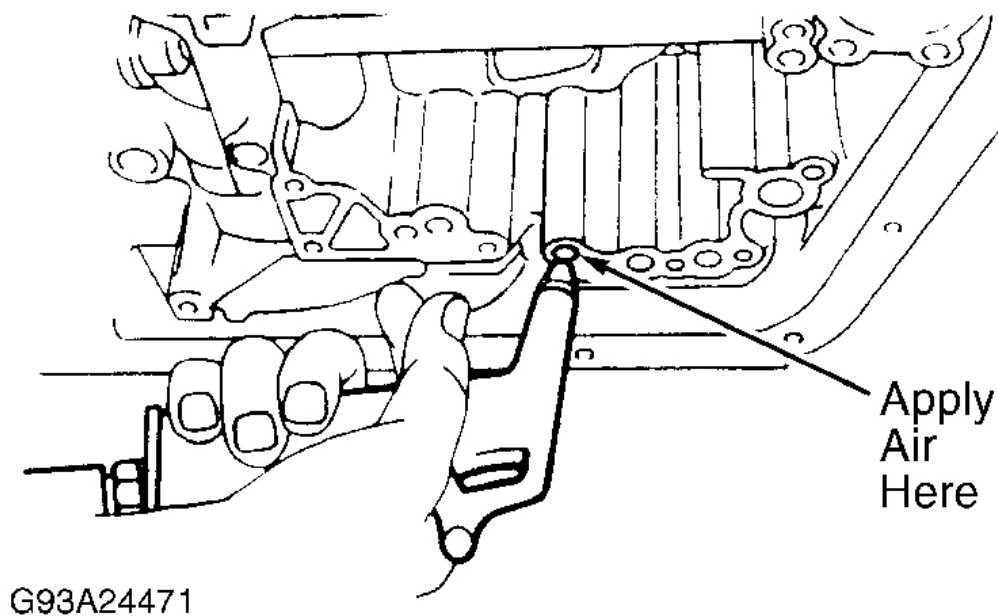

Fig. 15: Removing 1st & Reverse Brake Piston
7. Remove plates, discs and flange. Note number and location of components. To remove piston from 2nd brake drum, apply compressed air slightly to oil passage. Remove No. 2 one-way clutch snap ring. Remove No. 2 one-way clutch and rear planetary gear. Remove thrust washers from both sides of planetary gear. Remove rear planetary ring gear, races and thrust bearings. Using compressed air, confirm 1st and reverse brake piston moves smoothly. See **Fig. 15**.